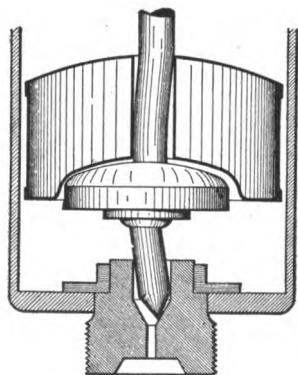

Fig. 133. Bent Needle Valve
**Bent Needle Valve-Stem.** To attend to this sort of trouble, disconnect the priming arrangement, take the cover off the float chamber (it usually is screwed on with a right-hand thread) and take the float out. An examination of the float, Fig. 133, will disclose whether it is at fault in any of the above-mentioned ways, all of which are comparatively easy to fix. If the float was jammed down, perhaps by priming, the act of taking it out will loosen it, provided that the stem of the float is not bent, and the needle valve or its seat is not injured. If the seat is scored, it should be ground-in just like any other valve, using oil and fine emery. A fuel-soaked cork should be thrown away if another is at hand to replace it, but if not, the cork float should be moved in its position on the stem so that it sets higher in the liquid. In other words, move the cork up sufficiently to compensate for its loss of buoyancy.